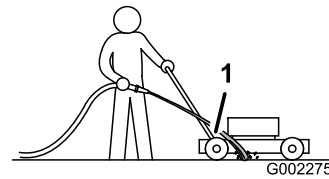

Figure 28
3. Hold the running garden hose at handle level and direct the water to flow on the ground just in front of the right rear tire (Figure 28).